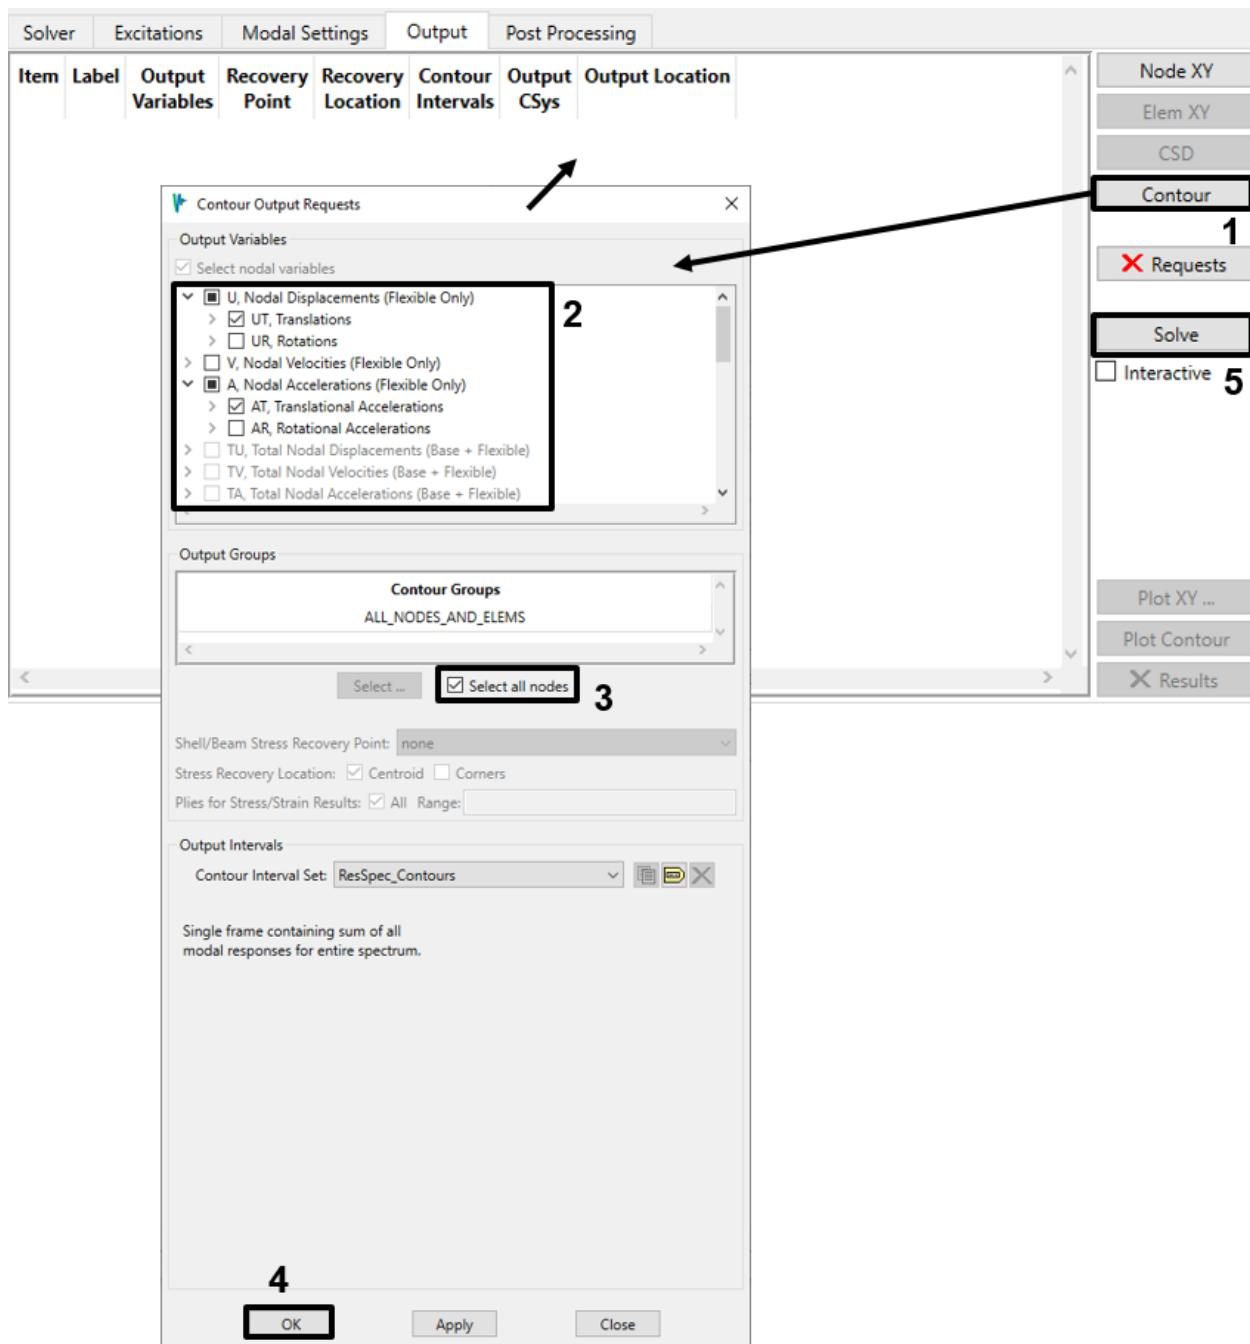

Figure 4-83. Request translational displacements and accelerations at all nodes.
8. Go to the *Output* tab. Only contour output is available for response spectrum analysis, so create a contour request for displacement and acceleration (*UT, AT*) at all nodes (Figure 4-83). Note that the **Select nodal variables** toggle is checked and inactive; the normal modes solve did not request any elemental data. Solve the event but do not plot the contours at this time.